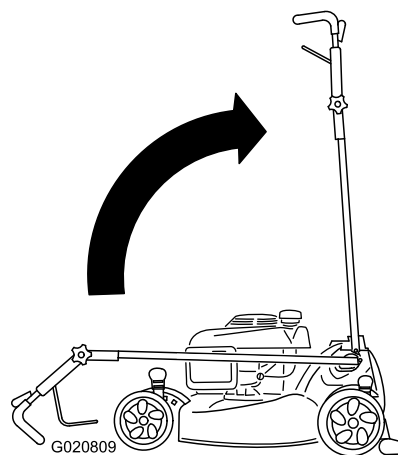

Figure 37
2. Move the handle to the upright position (Figure 37).